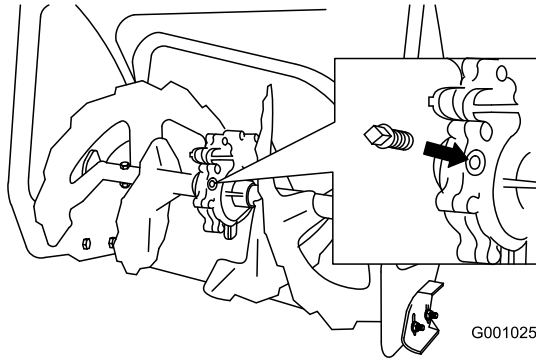

Figure 47
2. Clean the area around the pipe plug (Figure 47).